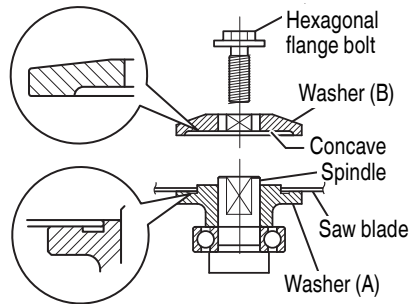

Fig. 8
2. Mounting the Saw Blade (Fig. 8)
- (1) Thoroughly remove any sawdust which has accumulated on the spindle, bolt and washers.
- (2) Apply quality machine oil to the surfaces of washers (B) and (A) which come into contact with the blade.
- (3) As shown in Fig. 8, one side of the saw blade should be fitted to the projecting center of washer (A) which matches the blade's inner diameter, and the other side to the concave side of washer (B).
- (4) To ensure that the saw blade rotates in the correct direction, make sure the arrow on the saw blade points in the same direction indicated by the arrow on the saw cover.
- (5) Using the fingers, tighten the Hexagonal flange bolt securing the saw blade as much as possible. Then press the lock button, lock the spindle, and fully tighten the Hexagonal flange bolt with the hex. wrench.